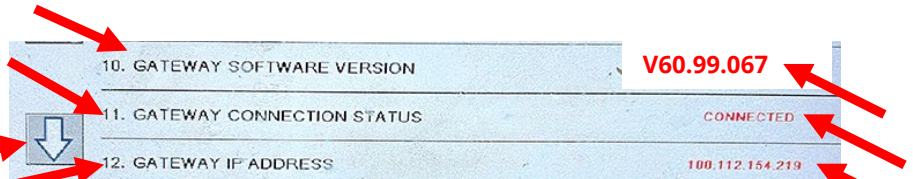

Figure 19
7. The **GATEWAY CONNECTION STATUS** should be **CONNECTED** (see Figure 19) indicating that it is connected to the cloud. If not, wait 5 minutes and recheck. Other statuses are below with definitions.
that are **NOT ALL ZEROS** (see Figure 19). **NOTE: The**
**IP address WILL be different than shown (see Figure 19).** If only zeros are
9. Press the down arrow button (see Figure 19).